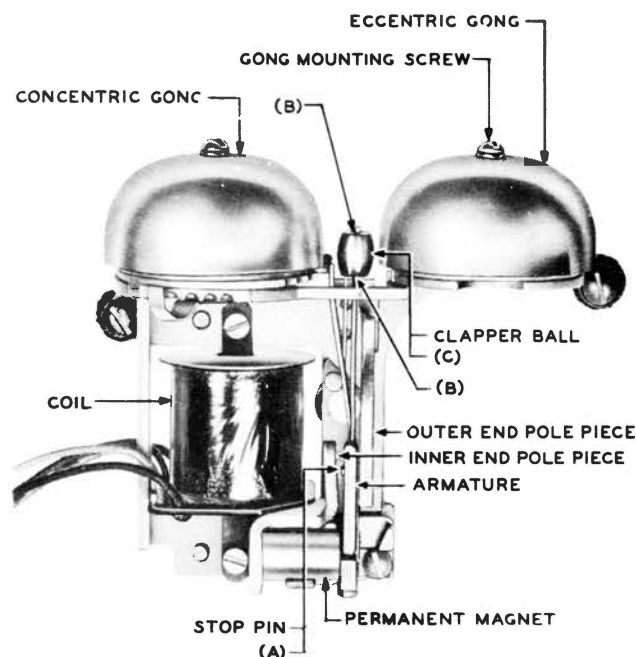

Fig. 1 - Points of Lubrication
(1) Fig. 1(A) - One application to the end of the stop pin.
- (1) Fig. 1(B) - One dip to each end of the clapper ball at the clapper rod.
- (2) Fig. 1(C) - One dip to the curved surface of the clapper ball.